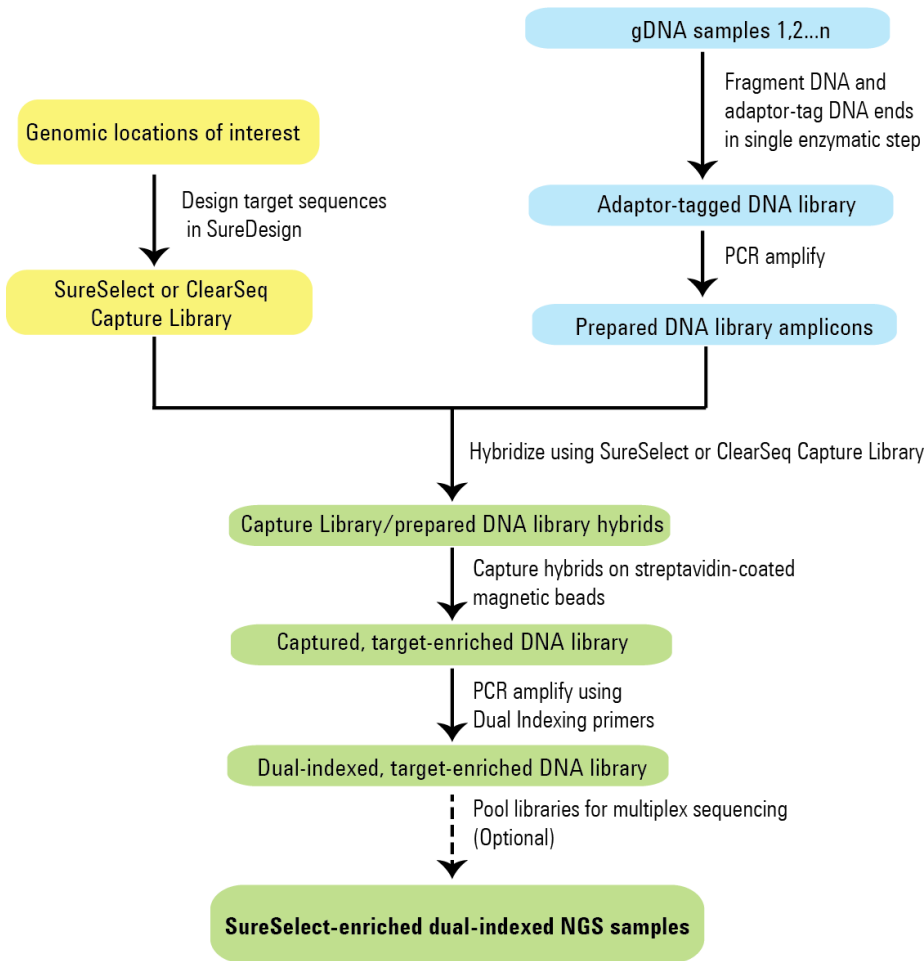

Figure 2 Overall sequencing sample preparation workflow.
Figure 2 summarizes the SureSelect^{QXT} target enrichment workflow for samples to be sequenced using the Illumina paired-read sequencing platform. For each sample to be sequenced, individual library preparations, hybridizations, and captures are performed. The samples are then tagged by PCR with an index sequence. Depending on the target size of the SureSelect capture, up to 96 samples can be pooled and sequenced in a single lane using the dual index tags that are provided with SureSelect^{QXT} Library Prep kits.
- At the hybridization step (see Figure 2), you can add a different Probe Capture Library to each row of the plate. Plan your experiment such that each prepared DNA library corresponds to the appropriate probe row in the sample plate.
- For post-capture amplification (see Figure 2), different probes can require different amplification cycle numbers, based on the probe design sizes. It is most efficient to process similar-sized probes on the same plate. See Table 55 on page 73 to determine which probes may be amplified on the same plate.
- Post-capture dual index assignments for the DNA samples can affect sample placement decisions at the beginning of the workflow. For example, all samples on the same row of the DNA sample plate must be assigned to the same P5 indexing primer during sample indexing after hybridization (see Figure 2). It is important to review and understand the guidelines for assignment of dual indexing primers on page 70 while planning sample placement for the run to ensure that the indexing design is compatible with the initial DNA sample placement.